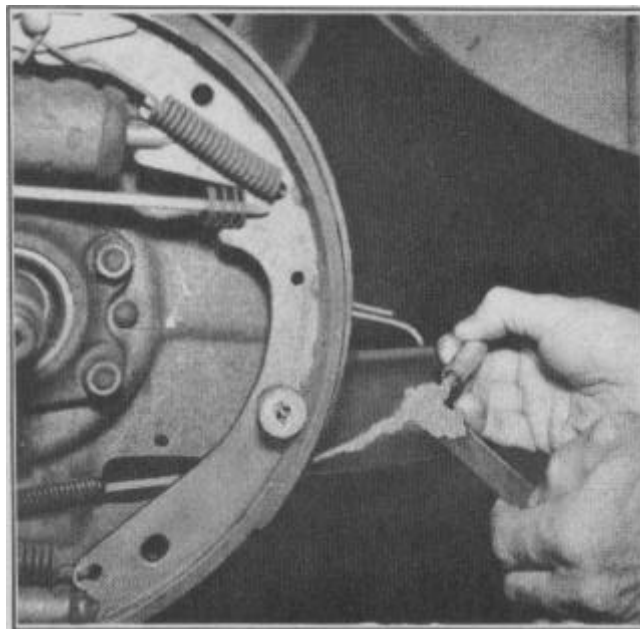

FIGURE 11
6. Remove adjusting hole cover from the backing plate Figure 11. Expand the brake shoes by turning adjusting screw. Move handle of Brake Adjusting Tool J-1028 as shown in Figure 11, until the brake drum can just be turned by hand, then back off adjusting screw moving handle of Tool J-1028 approximately 14 notches.